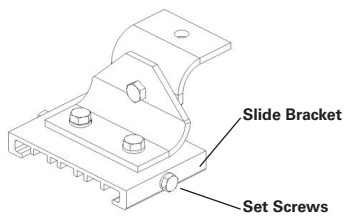

Figure 4. Swivel Mount Details
5. Tighten the two (2) 1/4" set screws on each slide bracket until they bottom (see Figure 4). Torque to 78 in.-lbs. (8.8 N-m).
6. Adjust the position of the fixture to the desired angle and tighten the two (2) 5/16" pivot bolts. Torque to 138 in.-lbs. (15.6 N-m).